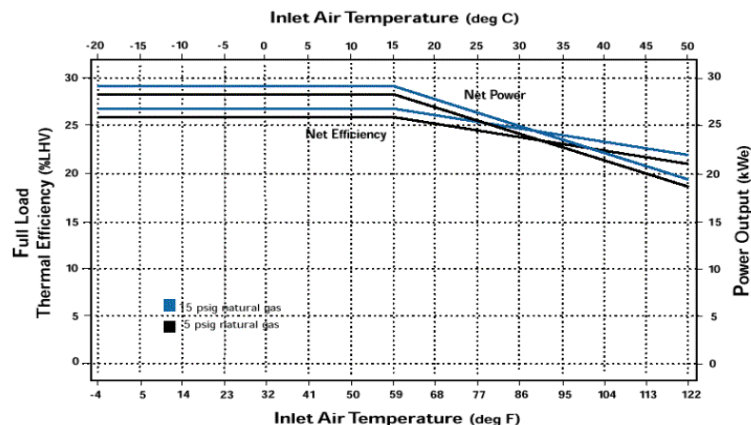

Figure 2-5 Effects of Ambient Temperature on the Electric Power Output and Fuel Efficiency of a Typical Microturbine
- Figure 2-5 shows the typical effect of inlet air **temperature** on microturbine performance.